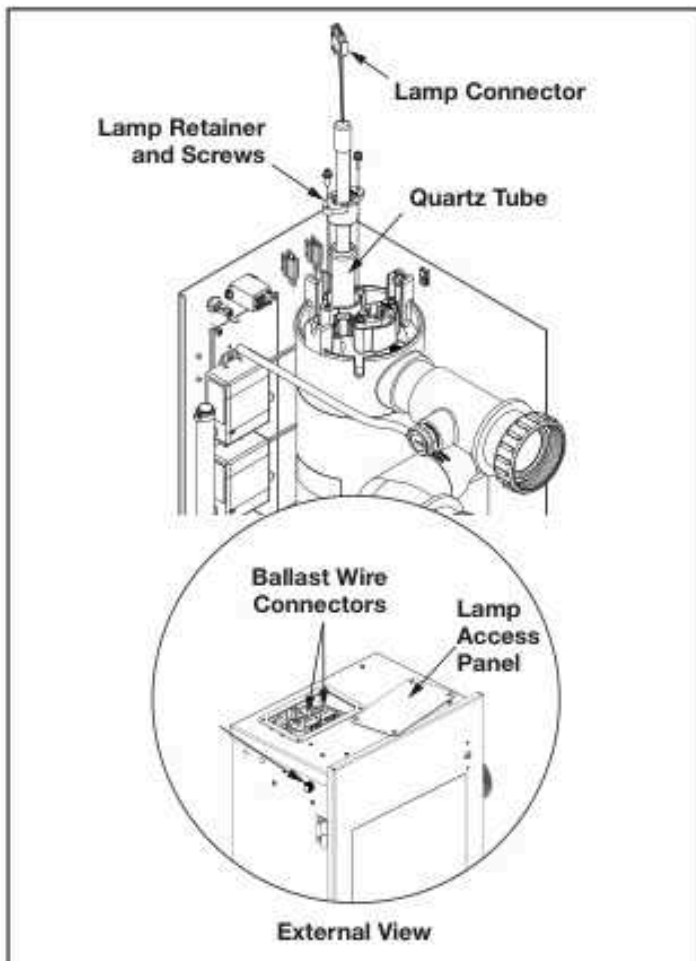

Figure 6. UV Reactor Sub-Assembly
2. Use a Phillips-head screwdriver to remove the four (4) screws holding the access cover. See Figure 6.
4. Disconnect the lamp connectors from the ballast wire connectors. Then grasp the UV lamp wires and gently pull until the top of the UV lamp has pulled past the lamp retainer tabs. See Figure 6.
2. Locate the UV lamp access panel on the top of the Jandy AOP system. Remove the four (4) screws with a Phillips head screwdriver, and remove the panel. See Figure 6.
4. Locate the UV lamp access panel on the top of the Jandy AOP system. Remove the four (4) screws with a Phillips head screwdriver, and remove the panel. See Figure 6 External View.
6. Disconnect the lamp connectors from the ballast wire connectors. See Figure 6.